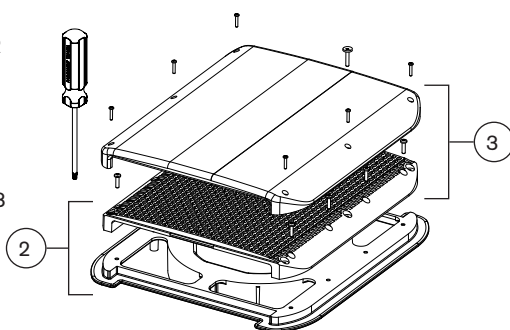

Fig. 5
1. Align the Plaster Ring Keyway with the Sump Alignment Key. (Fig. 5)